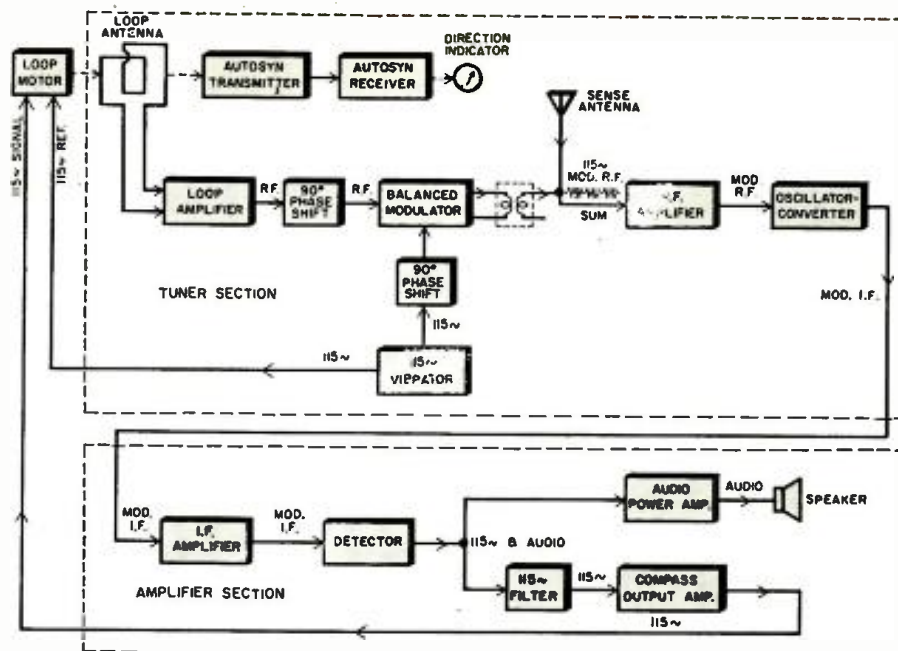

Fig. 3. Functional block diagram of a typical aircraft automatic direction finder.
Referring to Fig. 3, the amplified r.f. output voltage from the loop is first phase shifted by 90 degrees in the phase shifter. This 90-degree shift is introduced as a delay in phase. The result is that if the loop originally led the sense antenna by 90 degrees, it is now in-phase with the sense antenna as a result of being delayed in phase. Likewise, if the loop originally lagged the sense antenna by 90 degrees, it now lags the sense antenna by 180 degrees. These waveforms are shown at (1) in Fig. 2, which shows important waveforms in the ADF-12E receiver.